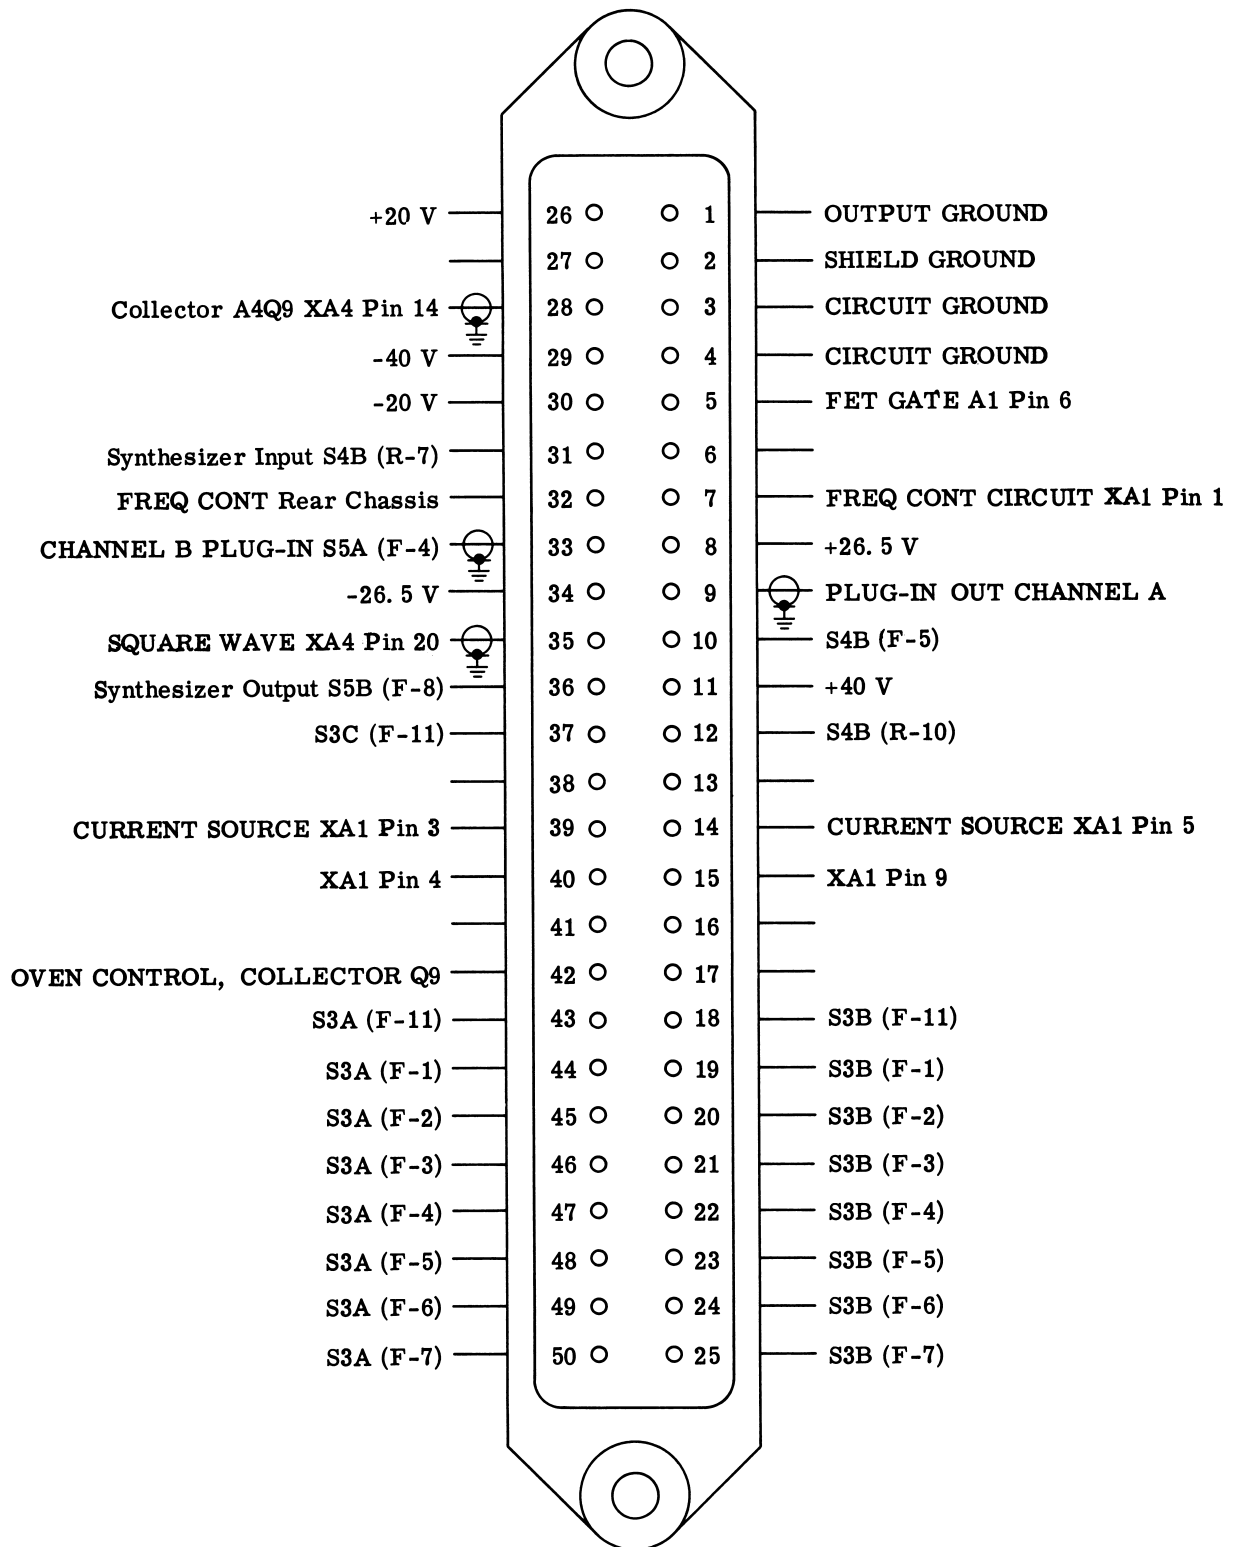
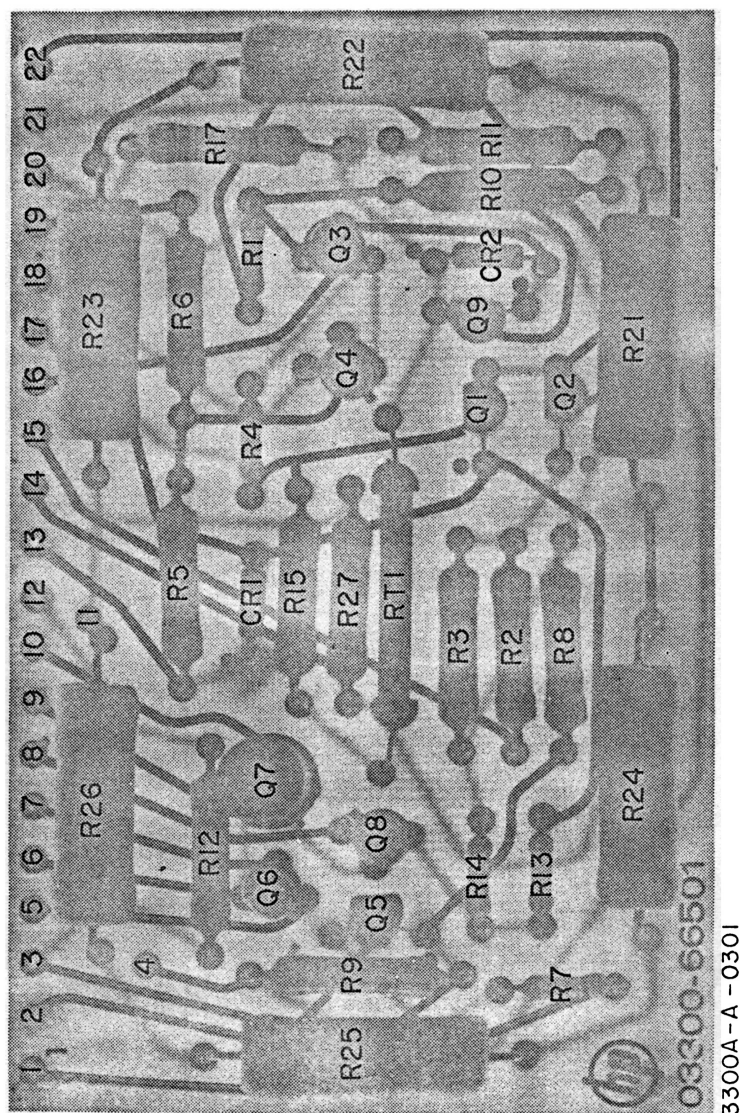

Figure 6-8. J6 Plug-in Receptacle
Figure 6-3.
**The location diagrams (Figures 6-3 through 6-7) depicts the physical location of components on the etched circuit boards. Figure 6-8 Plug-in receptacle shows the connections brought out from the main frame of the 3300A for use with future plug-in units.**